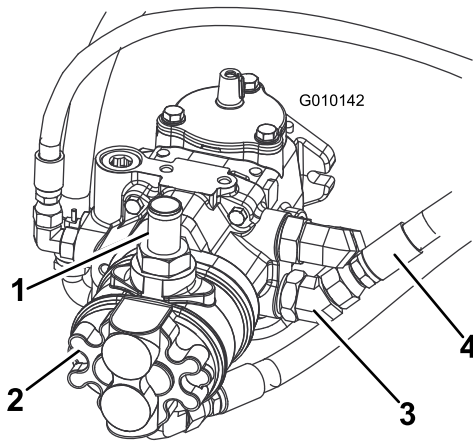

Figure 3
1. Drain all the hydraulic fluid from the reservoir by removing the upper hose from the pump (Figure 3).